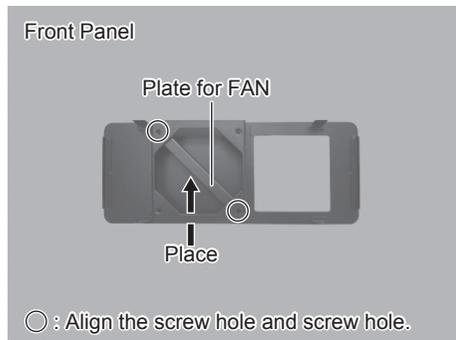

Fig. 46
- (9) Position the Plate for FAN on the Case (Front Panel) as shown in Fig. 46.